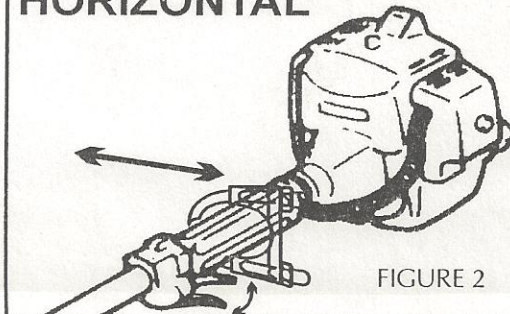

FIGURE 2
1. **DO NOT EXCEED MORE THAN 1/2 THROTTLE! (Install Positive Stop, See Figures 2 and 3).**
3. **INSTALL POSITIVE STOP** around handle, under the throttle trigger. (See Figures 2 and 3 on back) This will prevent engine from exceeding full throttle. (To ensure proper operation, you are required to purchase this throttle control device)